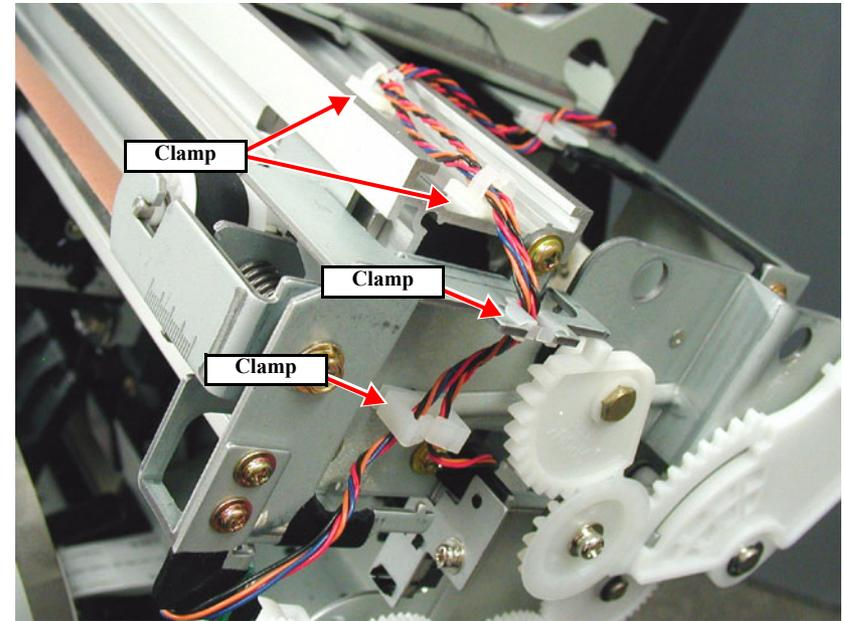

Figure 4-46. Releasing the CR\_HP Sensor ASSY Harness
3. Release the harness of the CR\_HP Sensor ASSY from the four clamps on the printer body. (See *Figure 4-46*)